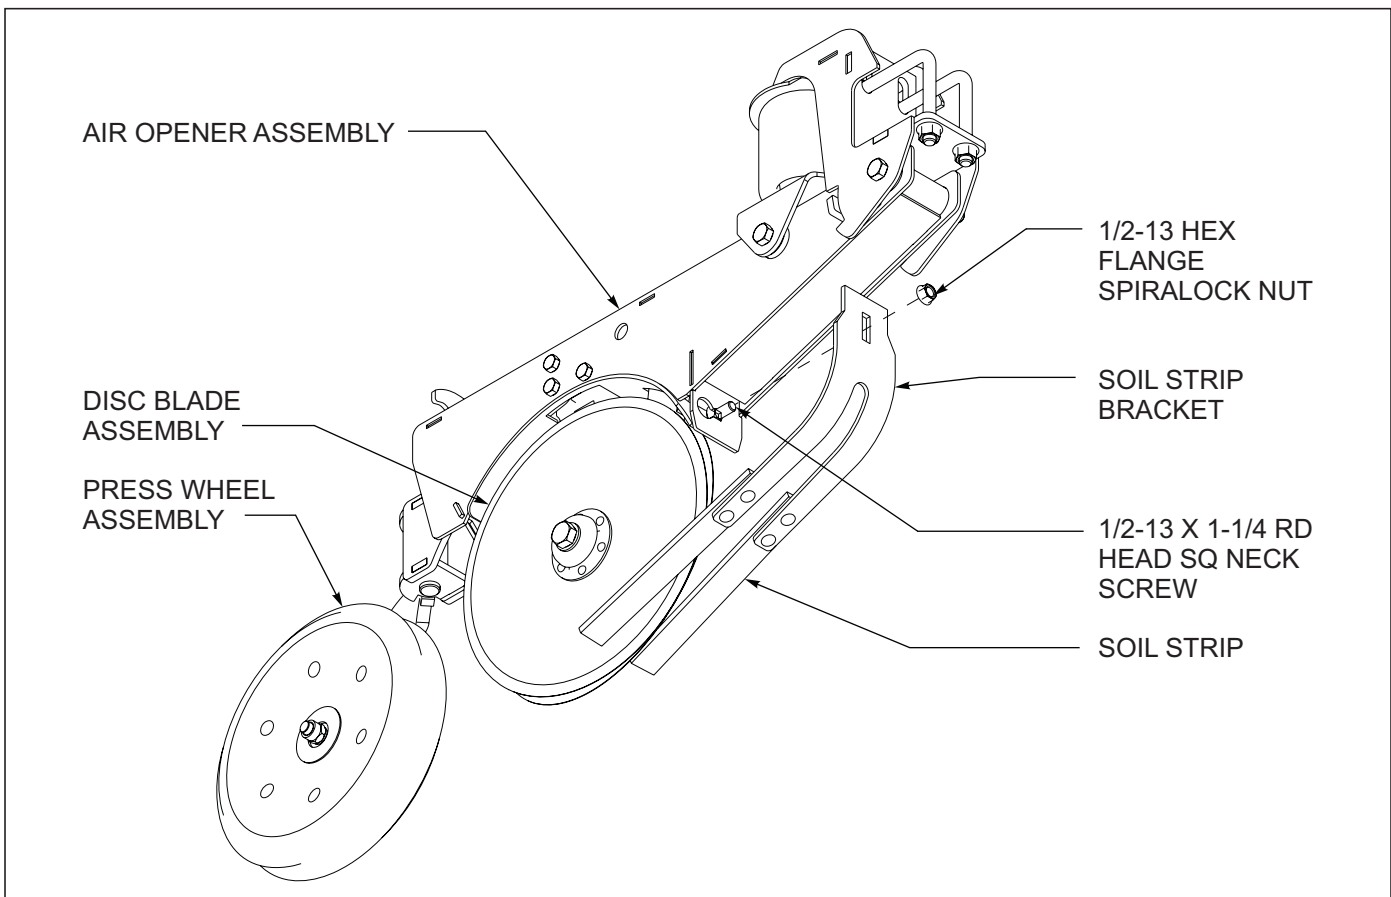

Figure 4-36: Opener Soil Strip Adjustment
4. To adjust the soil strip, loosen the 1/2-13 hex flange spirallock nut at the front of the soil strip bracket *See Figure 4-36*. The bracket may be adjusted up or down to the desired height and side to side to center on the opener blades. Retighten the 1/2-13 hex flange spirallock nut.